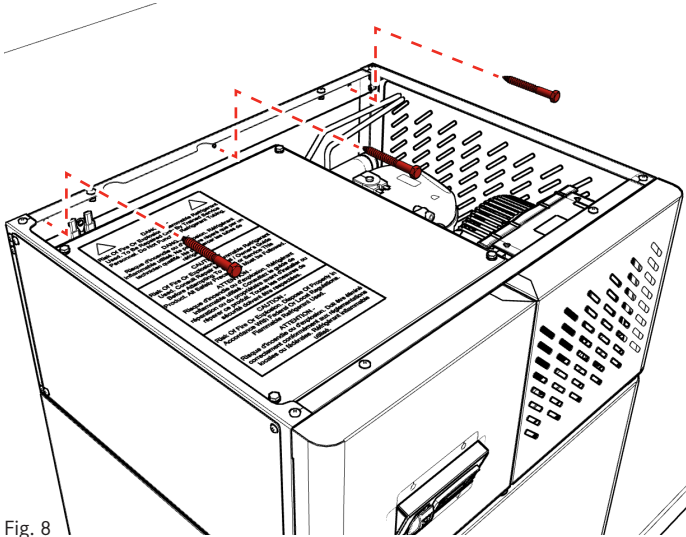

Fig. 8
Install three (3) appropriately-rated mounting screws, based on wall materials and weight-bearing requirements noted on page 4, through HCWF-P top brace (Fig. 8). Drill pilot holes as needed.